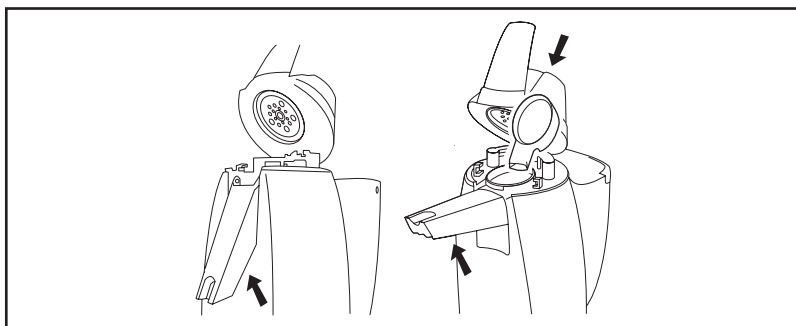

FIGURE 6
5. Make sure the mouth of the Pod Chamber is inside the Adjustable Brew Spout. Do not place a coffee pod in chamber. See Figure 6.